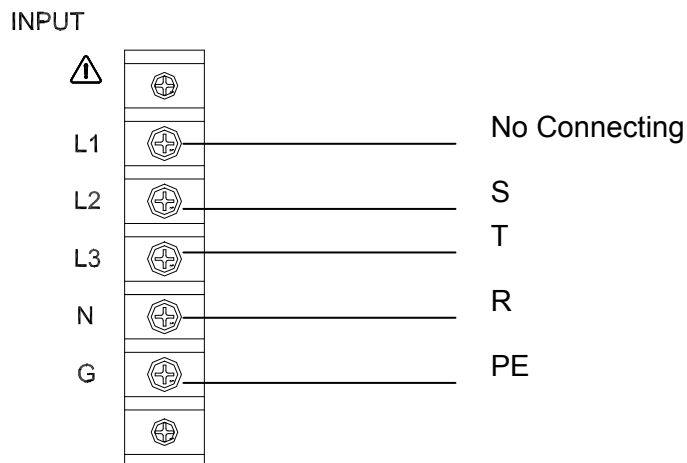
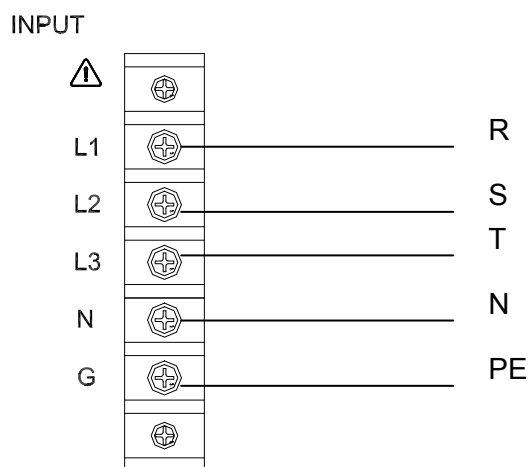

Figure 2-1 220 3~Δ Input Connection
Figure 2-2 380 3~Y Input Connection
2. Screw the power cord to the input terminal blocks of the AC source (see Figure 2-1 and Figure 2-2).